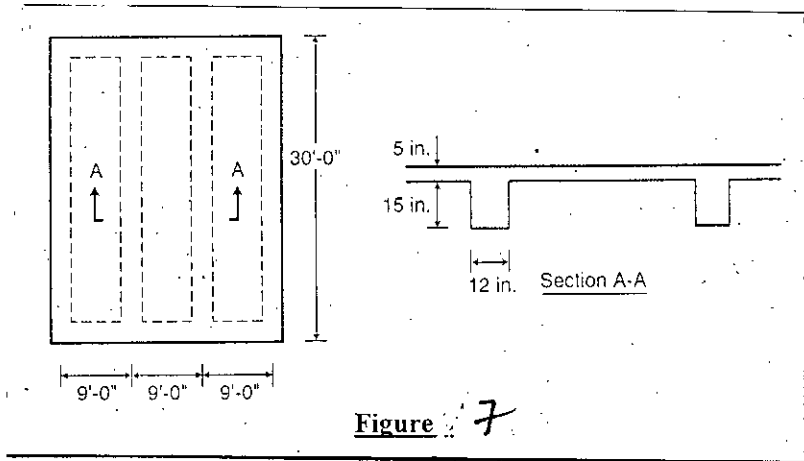

Figure 7
7. A three-hinged parabolic arch having supports at different elevation carries a uniformly distributed load of 2 kip/horizontal foot on its right segment 'CB' as shown in Figure 7. Determine the following:
5. (a) Why is concrete cover over rebar important? What are the recommended values of 'cover' for RC beam and slab as per ACI code? (5)
- (b) What are the sources of uncertainties in analysis, design and construction of RC structures? (5)
- (c) Figure 7 shows the simple floor plan, beams 12 in wide and 20 in. deep are spanning 30 ft. The beams are located 9 ft center to center. A 5-in thick spans from beam to beam. The floor structure will be used in a general office building, thus the minimum uniformly distributed live load is 50lb/ft². Assume 20 psf for the superimposed dead load for the partitions, mechanical and electrical systems, and so on. (10+15)